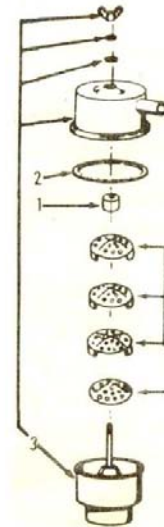

Fig. 4-17. Crankcase breather
- a. Remove the cover (4, Fig. 4-17) and lift out the top screen (6), mesh element (7) and bottom screen (8). Clean in approved cleaning solvent.
- b. Inspect the rubber gasket (5), body (9) and cover (4) for cracks or other damage. Discard and replace damaged parts.